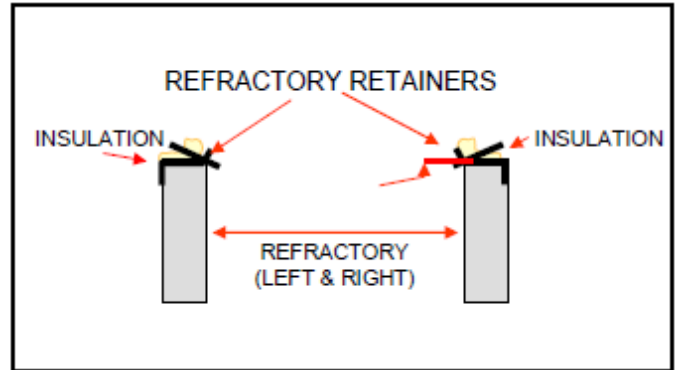

Figure 10. Refractory Retainer View
18. Remove the front retainer. Make sure to have the pilot shield aligned with the front right corner above the pilot (See **Figure 10**).